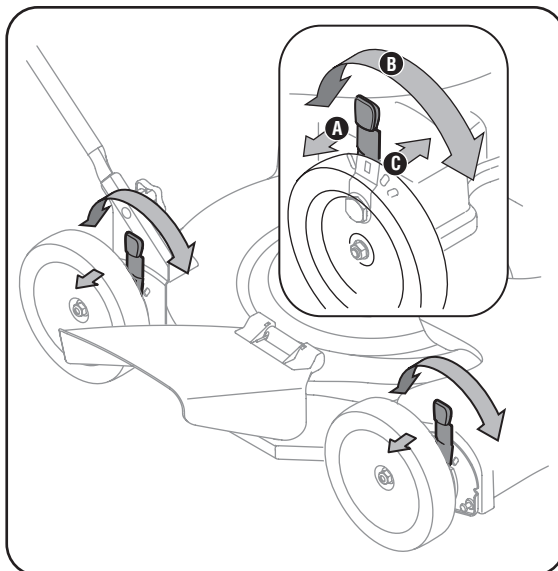

Figure 3-6
- b. Slide lever to desired position for a change in cutting height. See Figure 3-6.